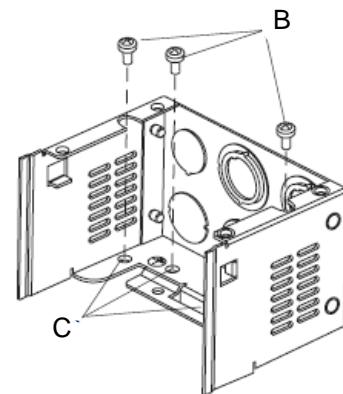

Figure 5
Step3: Remove the three green ground screws (B) from the inverter and install them in the three holes (C) at the base of the conduit box. See figure 5.